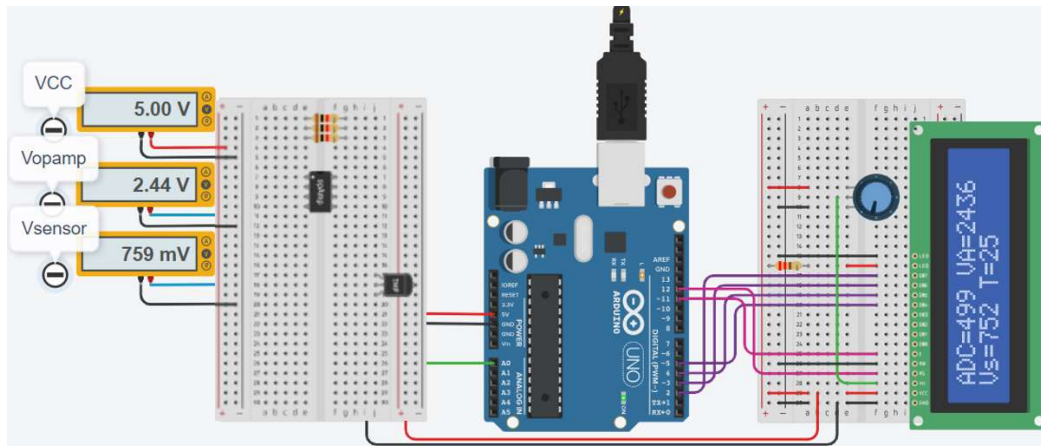

Fig. 16. Screen capture output example
- Screen captures at simulation of all the circuit at the temperatures T_0 and T_1 , showing the values in the voltmeters and the serial monitor. Fig. 16 gives an example.
Fig. 16 shows an example of a screen capture of a case example with the thermistor sensing 25°C . The LCD shows the values.